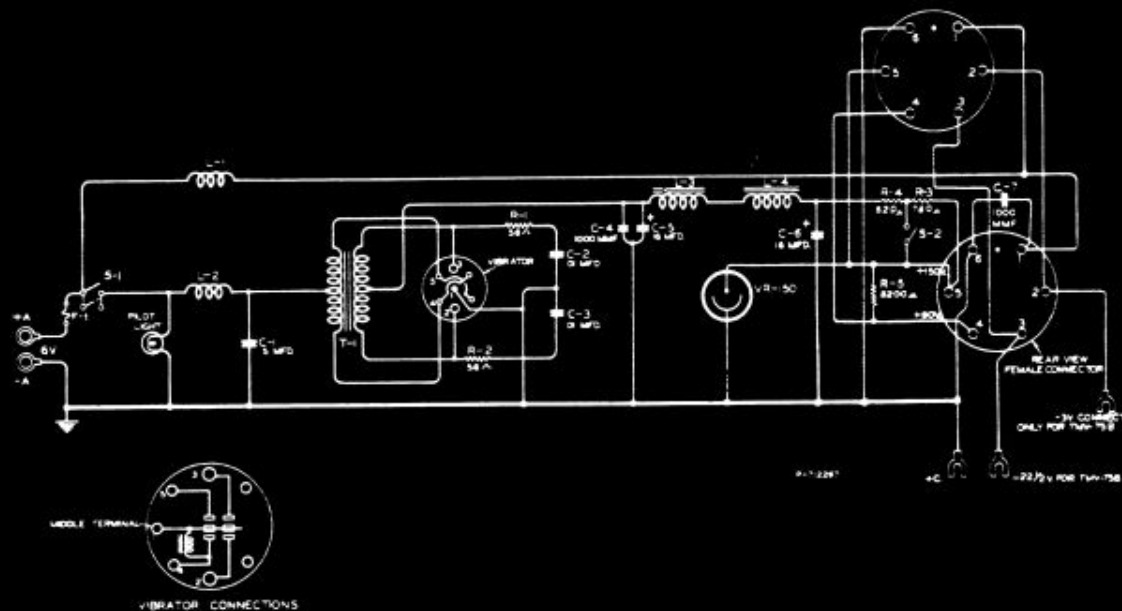

FIGURE 3 - SCHEMATIC CIRCUIT DIAGRAM
**CIRCUIT CONTINUITY** - Schematic and connection diagrams of the instrument (see Figures 3 and 4) are included for purposes of circuit analysis and continuity check. The schematic symbol number of each part is repeated on the connection diagram and photographs to facilitate identification by means of cross reference. Nominal values also are shown on these diagrams to aid in locating causes for failure in operation.